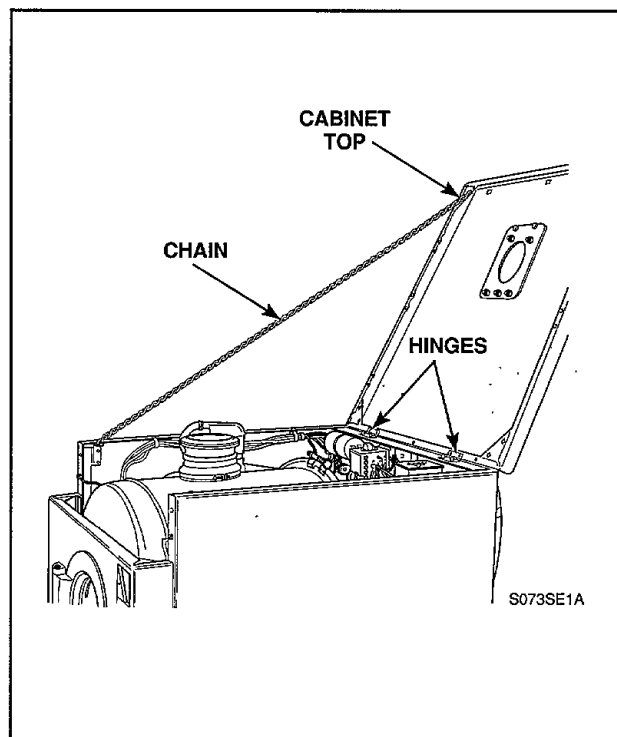

Figure 14
- g. Tilt cabinet top back and hold in raised position with a small chain, *Figure 14*.
- h. Remove four screws and nuts holding cabinet top to hinges, *Figure 14*.
- h. Tilt cabinet top back and hold in raised position with small chain, *Figure 14*.
- j. Tilt cabinet top back and hold in raised position with a small chain, *Figure 14*.
j. Tilt cabinet top back and hold in raised position with a small chain, *Figure 14*.